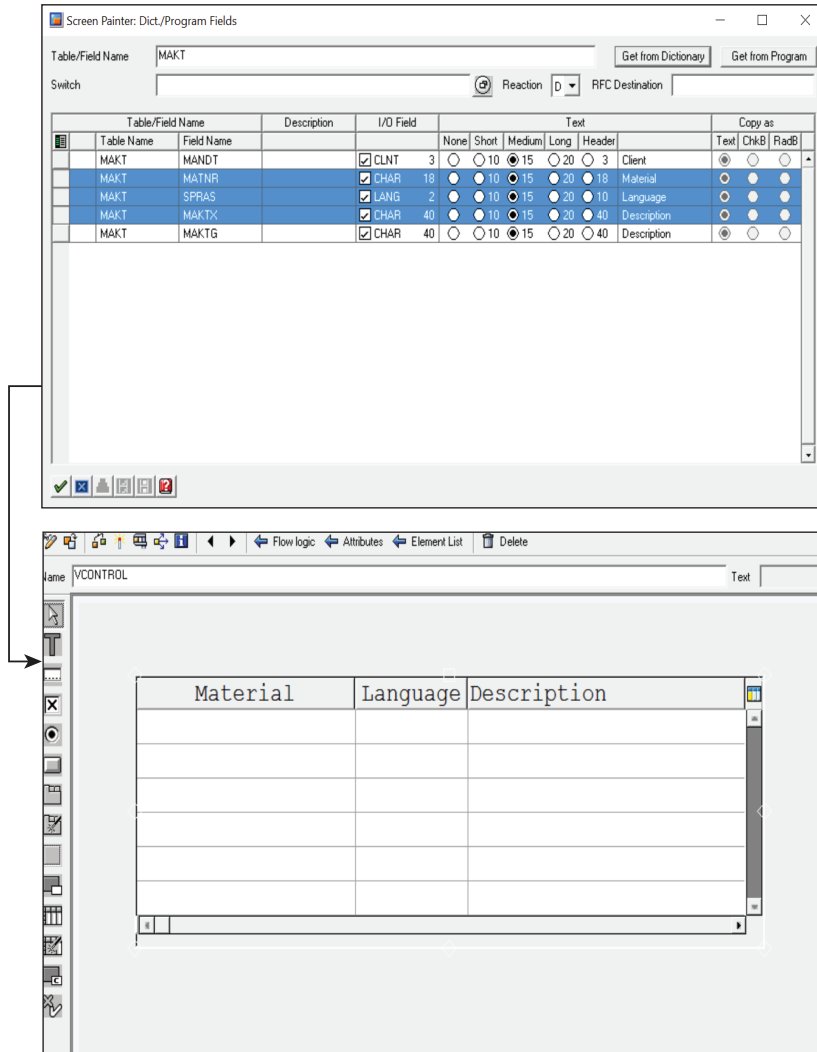

Figure 12.30 Adding Table Fields
3. Move the cursor over the table control and click to add the columns. You can repeat this process to select additional columns from different tables. At this point, the table control should look like Figure 12.30.